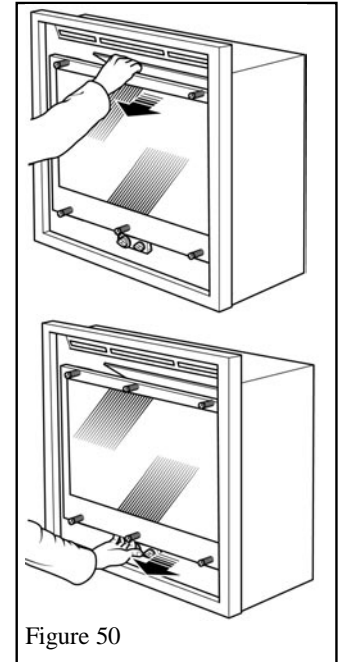

Figure 50
4. Pull the top of the window forward and release to check that it opens slightly and returns in the event of a delayed ignition explosion. See figure 50.
5. Similarly check the bottom of the window by pulling it forward and releasing. See figure 50.